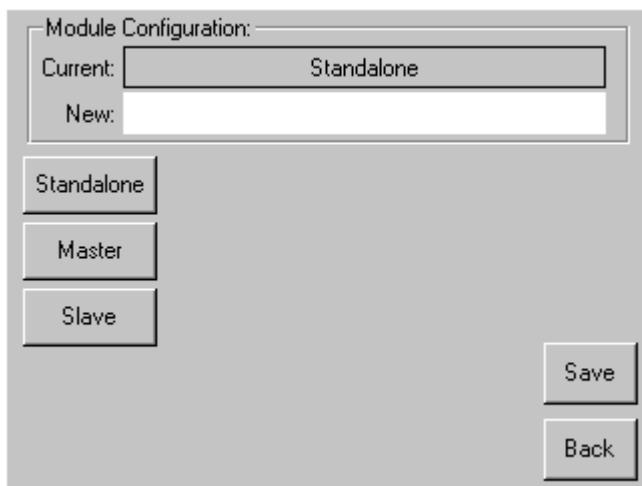

Figure 28 Module Configuration screen
5. Touch the button next to the **Module Configuration** menu option and then touch the **Master** button (see Figure 28).
5. Touch the button next to the **Module Configuration** menu option and then touch the **Slave** button (see Figure 28 on page 38).